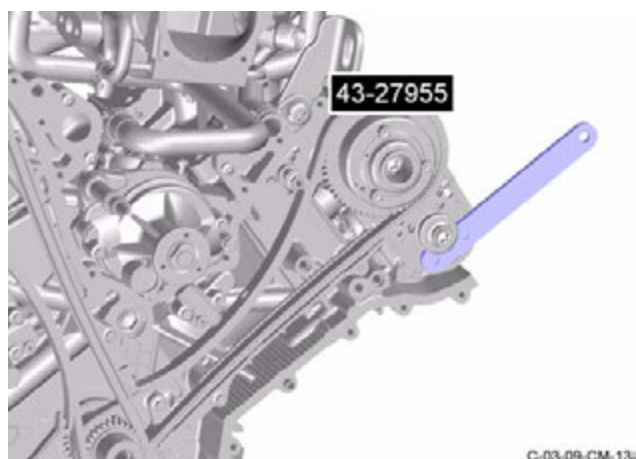

Figure 23
10. Remove the special tool from the exhaust camshaft sprocket (refer to Figure 23).